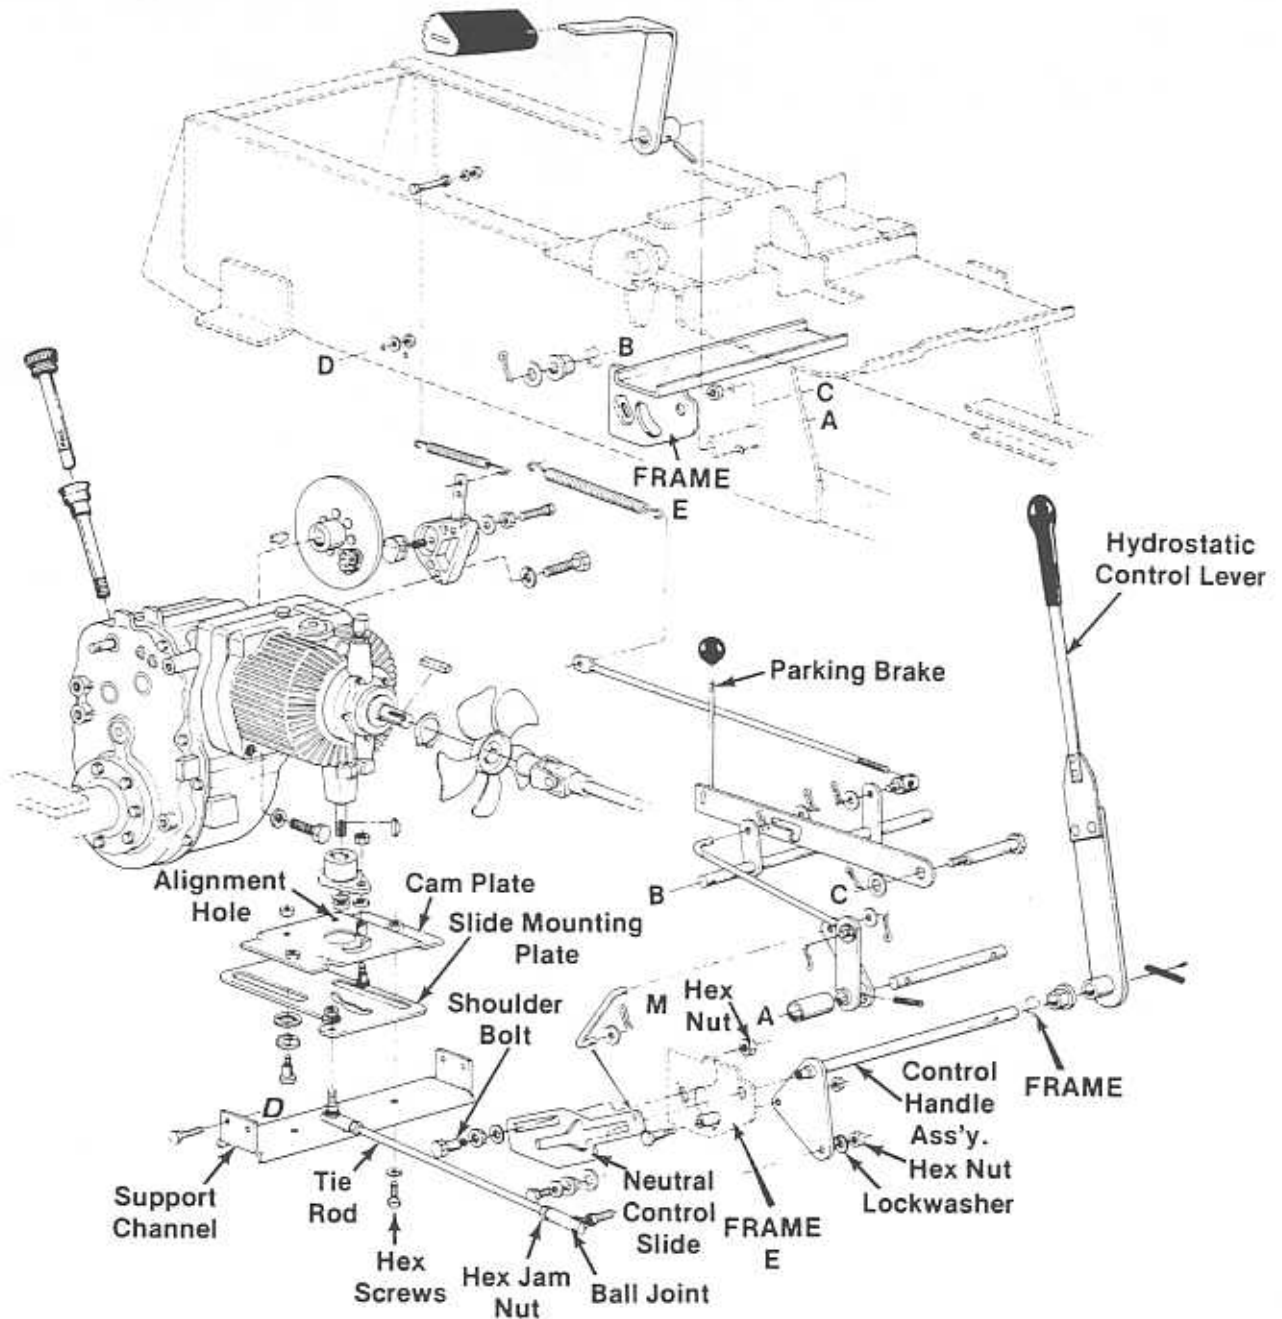

FIGURE 17.
Neutral Adjustment for the Hydrostatic Control Lever (See figure 17)
2. Remove the ball joint hex nut and lock washer from the control handle assembly. See figure 17.